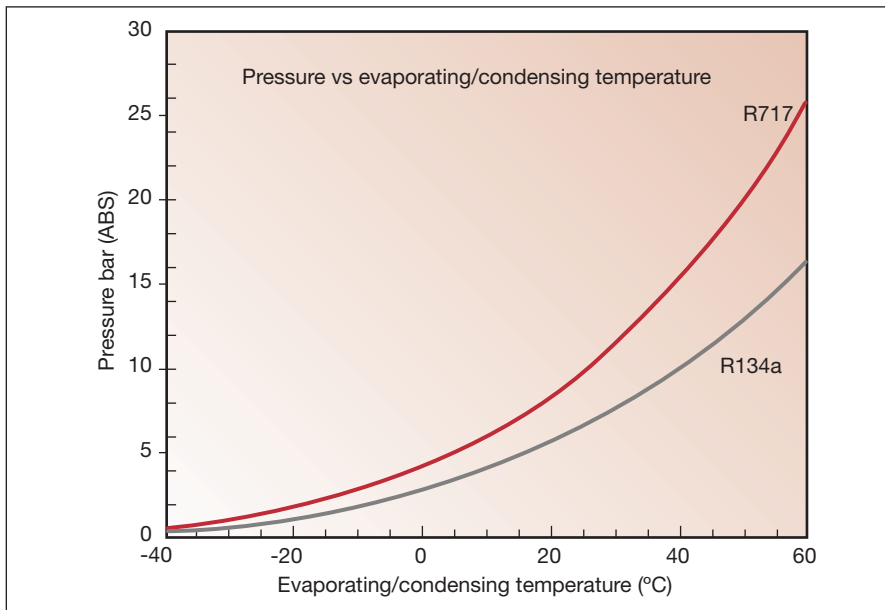

Figure 1 Pressure-temperature relationship for ammonia (R717) and R134a
**Rule 4.** The boiling temperature and the condensing temperature change if the pressure changes – Figure 1 shows this relationship for ammonia and R134a. This principle explains why you can't make good tea up a high mountain – the water boils at only about 90°C because of the lower pressure.
The refrigeration system uses a fluid – the refrigerant – which boils at a low temperature (usually between  $-10^{\circ}\text{C}$  and  $-45^{\circ}\text{C}$ ) when it is at a low pressure (the saturation pressure, usually between 1 and 5 bar as shown in Figure 1). Its boiling or evaporating pressure can be controlled so that it boils at a temperature lower than that of the product to be cooled (e.g. ice cream) – Rules 4 and 1.